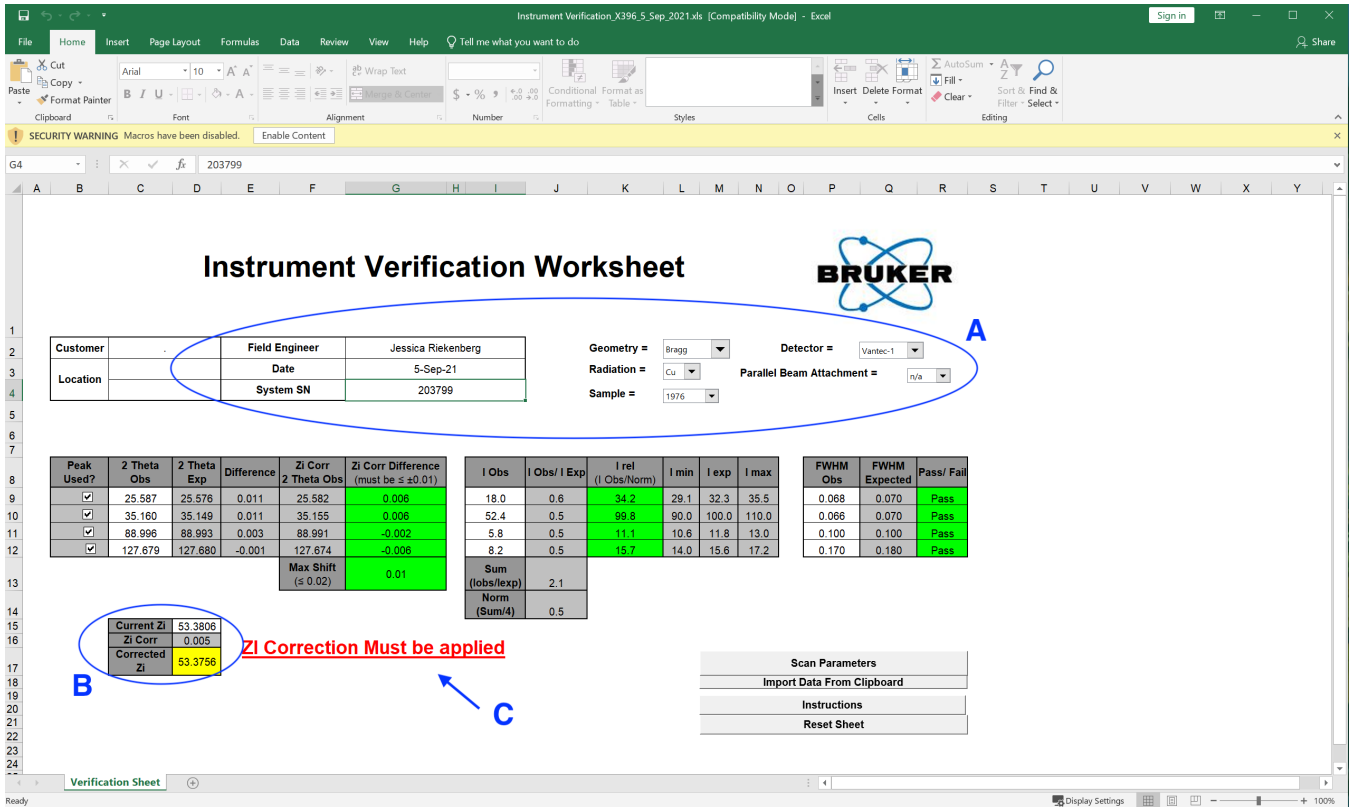

Figure 25. QAQC Verification Spreadsheet. Zeroing the goniometer.
8. Open the QAQC corundum standard Equipment Verification 3.3.xls Excel spreadsheet. QAQC Corundum std Equipment Verification X384.xls on the XRD/H computer (Figure 25)